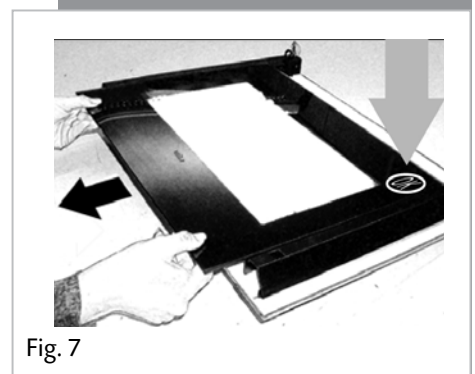

Fig. 7
3. Slide the door glass out in the direction shown in fig. 7.
Please keep the ok symbol to the bottom right of the oven door (fig. 7).